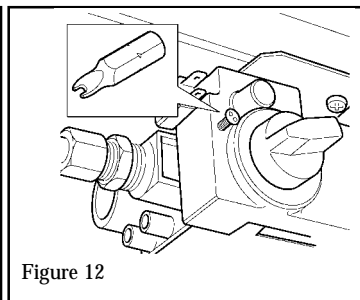

Figure 12
13. Remove the valve control cover screw using the special bit provided. See figure 12.